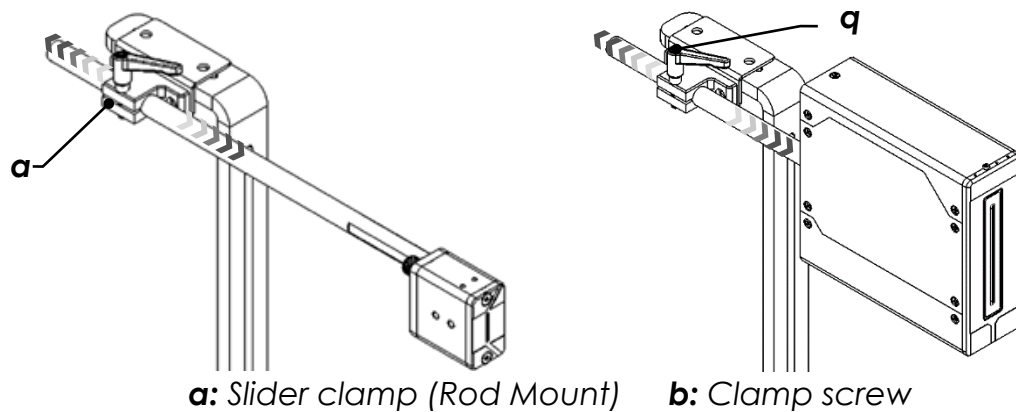

Figure 41
- Unmount clamp screw to free the slider clamp (see Figure 41).